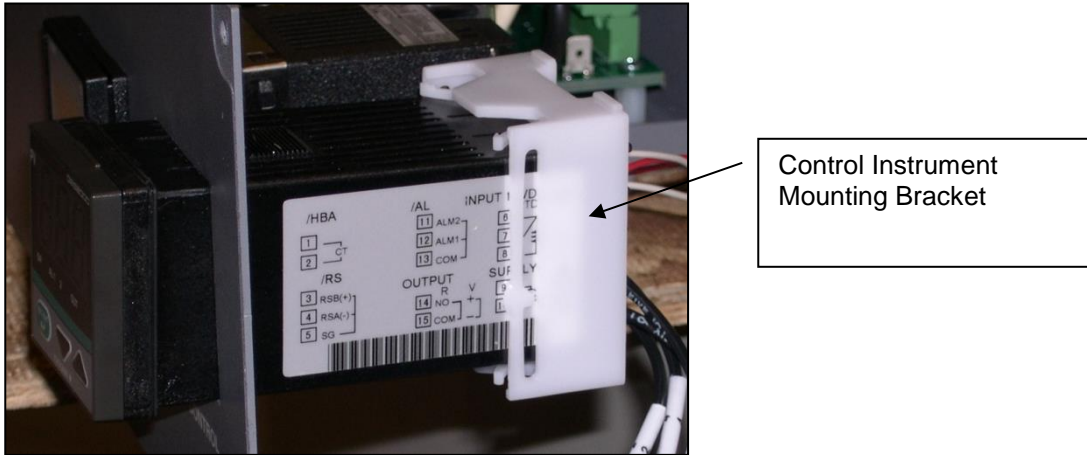

Figure 16. Prepare to remove control instrument by removing the mounting bracket.
5. Move the Control instrument mounting bracket back and off (Figure 16).